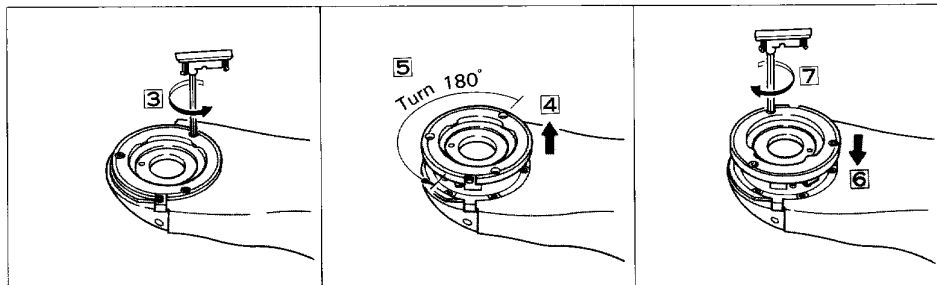

Fig. 2-9
- Loosen the three bolts with hexagon holes on the circular dovetail for mounting the eyepiece tube (integrated with the circular dovetail for mounting the revolving nosepiece) by using the hexagon wrench ③. Remove the circular dovetail ④. Mount and turn it 180°; ⑤ and ⑥, then fasten it with the three bolts with hexagon holes firmly and equally ⑦ (Fig. 2-9).